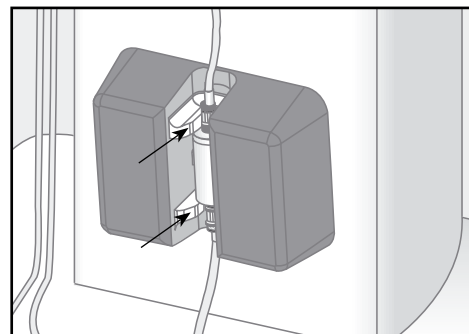

Figure 6: Separation column in separation column holder.
1. Insert the separation column into the separation column holder as shown (see fig. 6).